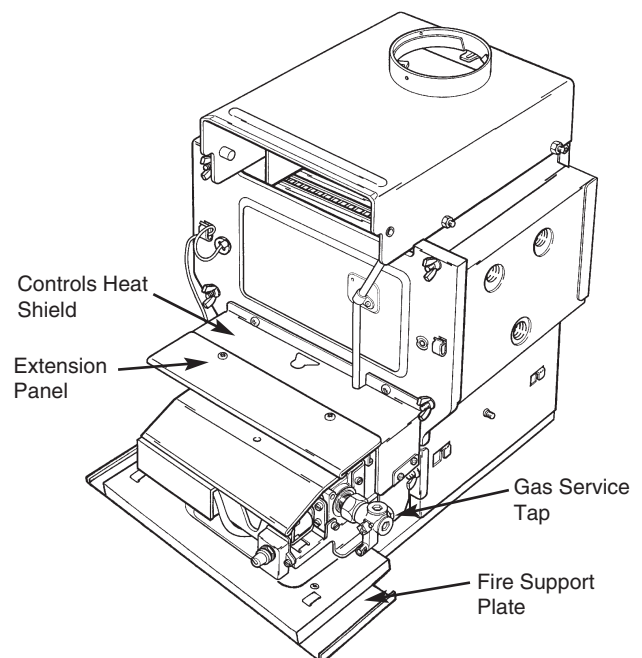

Fig. 4 Wall Fixing - Support Plate
Fit the extension panel supplied with the fire to the boiler controls heat shield using two of the No. 8 x 3/8 in. self tapping screws (Fig.4).
1. Slide the fire support plate over the overhanging boiler base (Fig.4). Using the screws provided, loosely attach the plate using the slots at each side.
3. Turn on the gas service tap (at present supplying gas to the boiler only) fully anti-clockwise. The service tap is now supplying both the boiler and the fire (Fig.4).
3. Turn off the gas service tap by turning fully clockwise (Fig.4).